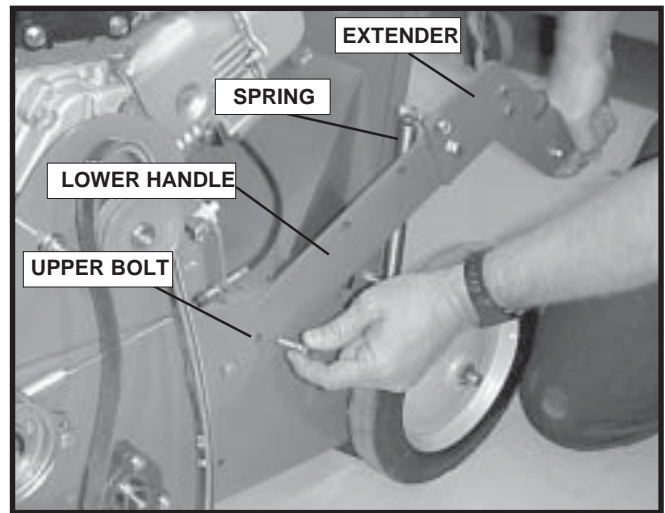

FIGURE 8
19. Remove upper bolt from lower handle and rotate handle toward the ground. Using the hardware provided install the spring to the extender. Rotate handle back to original position stretching spring, re-install the 3/8" bolt into the lower handle. Repeat on other side. See Figure 8.